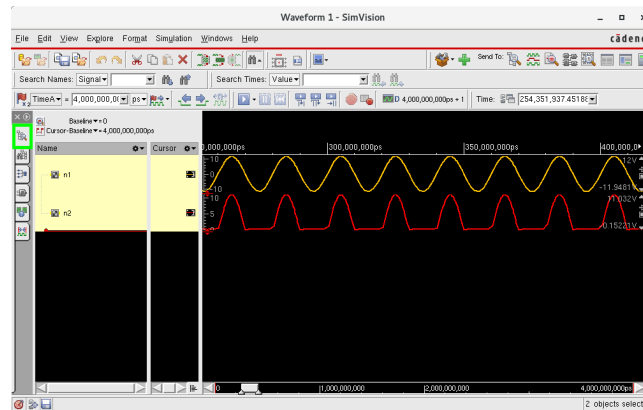
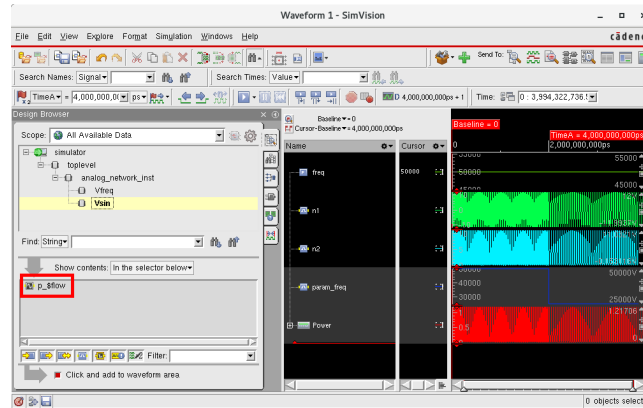

Figure 17: Anode ($n1$) and cathode ($n2$) voltage in waveform window
Figure 25: Send current to waveform window
4. Start the simulator as explained in steps 4-6 of Tutorial 2. If you did everything right you should see something like in Figure 17 (after zooming in). If you forgot to send a signal to the waveform window, you can still add it by clicking on the tab indicated by the green box in the upper left corner of Figure 17. Now you can browse the all the signals and plot them by clicking on them (single click, no double click).
11. You could also use the current through the resistor to calculate the dissipated power ($p = i^2 R$). Before you can do that, you have to add the current through the sine voltage source (that is the same as the current through the resistor) to the waveform window. Click on the tab indicated by the green box of Figure 17. Add the current waveform to the waveform window by clicking on the signal indicated in the red box of Figure 25. Note that SimVision gives this current signals quite confusing names (like p_flow). Luckily you can rename them in the waveform window by right clicking on them.